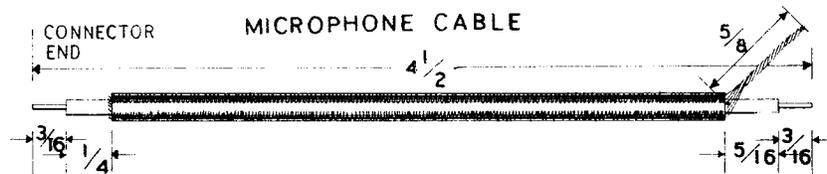

Figure 10
- () Cut the piece of microphone cable to $4\frac{1}{2}$ " and strip the leads as shown in Figure 10. (Do not confuse this cable with coax cable shown in Figure 11.)
- () On the other end, the outside shield lead connects to #2 on CC (NS). The center conductor connects to #3 on CC (NS). See Pictorial 2.
- () Trim the leads on the 4700Ω (yellow-violet-red) $\frac{1}{2}$ watt resistor to $\frac{3}{8}$ " and connect one end to #1 on CC (NS) and the other end to #3 on CC (S-2).